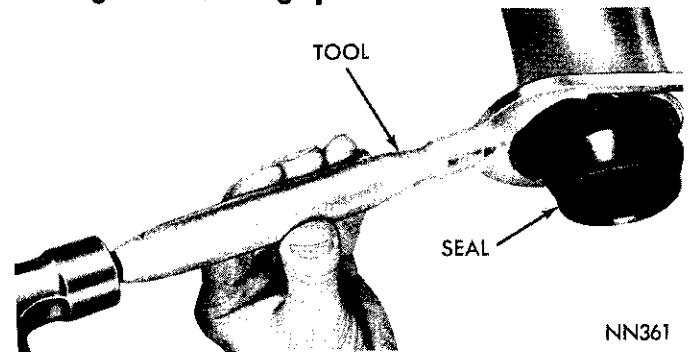

Fig. 21—Removing Extension Housing Yoke Seal
(2) Remove the extension housing yoke seal (Fig. 21) with Tool C-3985.